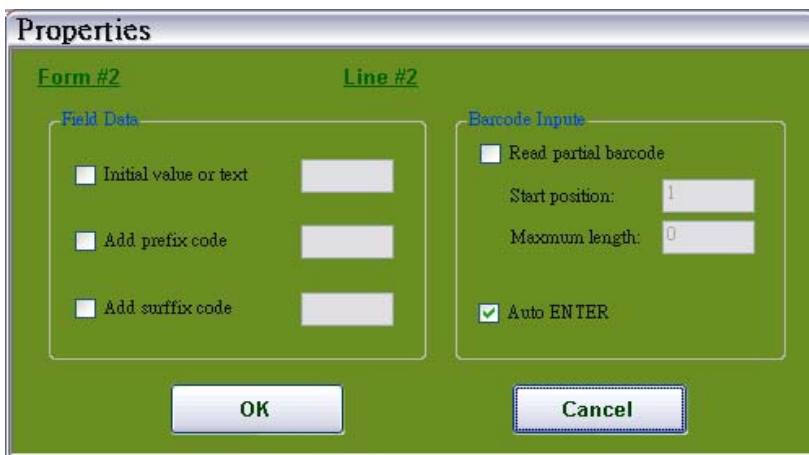

Figure 25
- Properties: please refer to figure 25